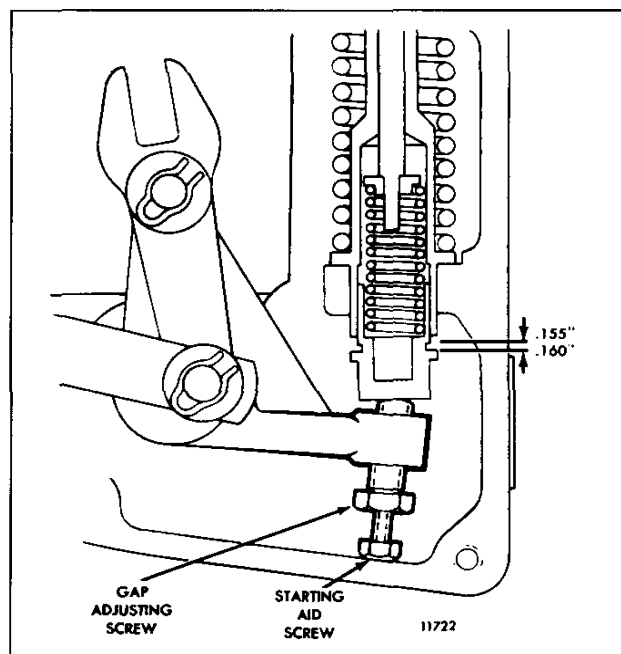

Fig. 14 – Adjust Starting Aid Screw
With the engine stopped, this adjustment will provide a gap of .155" to .160" between the high-speed spring plunger and the low-speed spring cap (Fig. 14).
2. With the engine at operating temperature and no load on the engine, place the speed control lever in the *maximum speed* position. Turn the high-speed spring retainer in (Fig. 14) until the engine is operating at the recommended no-load speed. Use an accurate hand